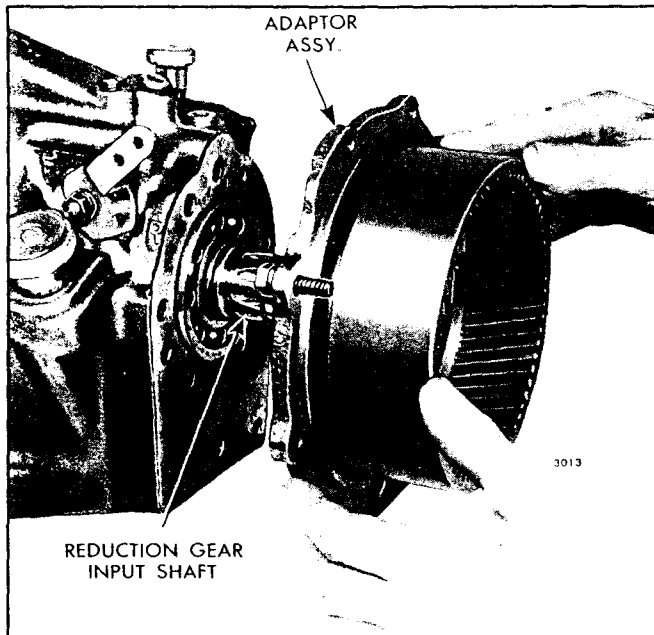

Fig. 18 - Removing or Installing Reduction Gear Adaptor, Planetary Ring Gear Plate and Ring Gear Assembly from/to Reverse Gear Housing (2.5:1 and 3:1 Ratios)
- c. Tap the forward face of the adaptor lightly with a plastic hammer to loosen the adaptor from the reverse gear housing and the reduction gear input shaft bearing, then slide the adaptor assembly straight off of the reduction gear input shaft as shown in Fig. 18. Remove the gasket from the adaptor or the gear housing.